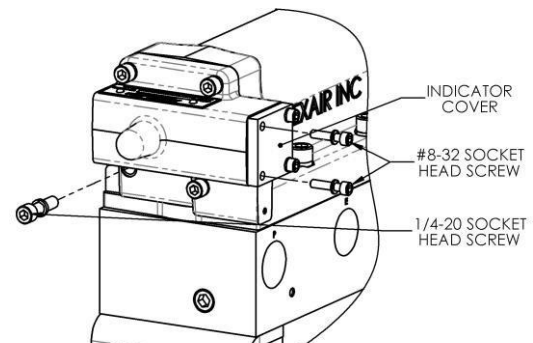

Figure 3
5.3.1. Locate the **INDICATOR COVER** on the opposite side from the **INDICATOR**. See Figure 3.